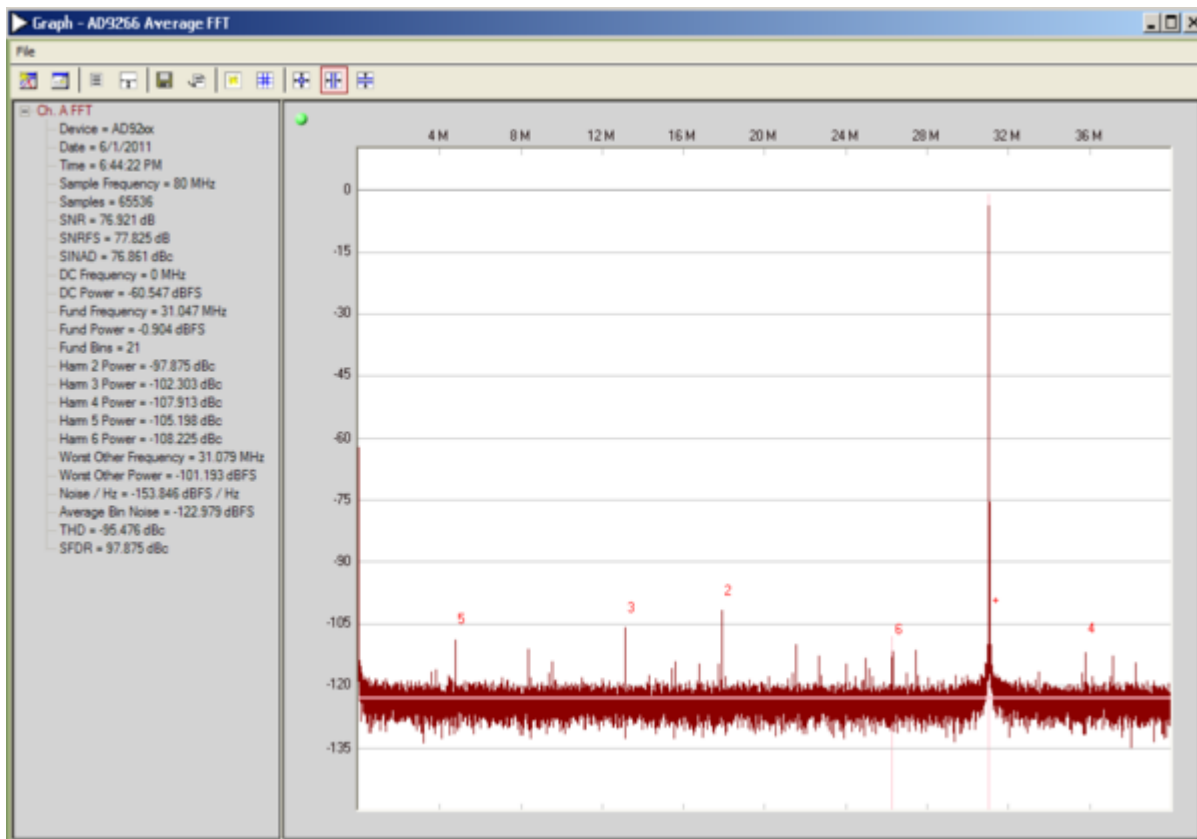

Figure 11. Run/Continuous Run Buttons (Encircled in Red) in VisualAnalog Toolbar, Collapsed Display
5. Click the **Run** or **Continuous Run** button in the **VisualAnalog** toolbar (see Figure 11).